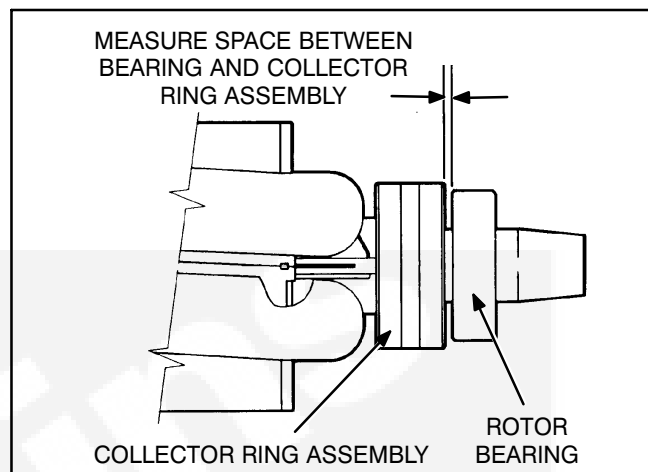

FIGURE 9-11. Rotor Bearing Spacing
1. Measure and record the distance between the bearing and the collector ring assembly, (referenced later for reassembling). See Figure 9-11.